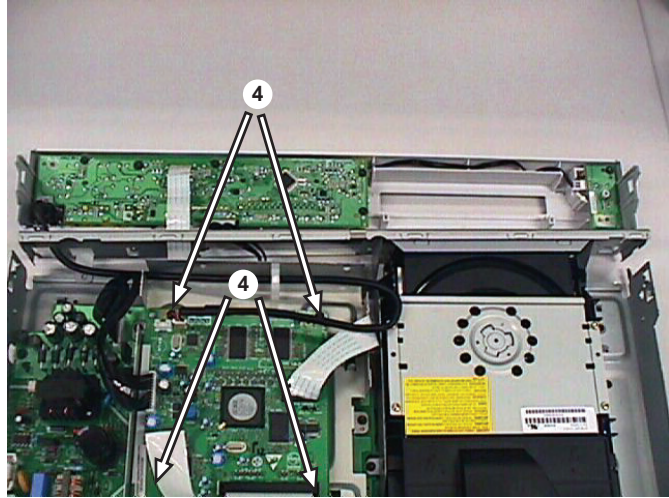

Figure 4-7
- 1) Remove the 4 screws 272 to loose the Digital Board as shown in Figure 4-7.